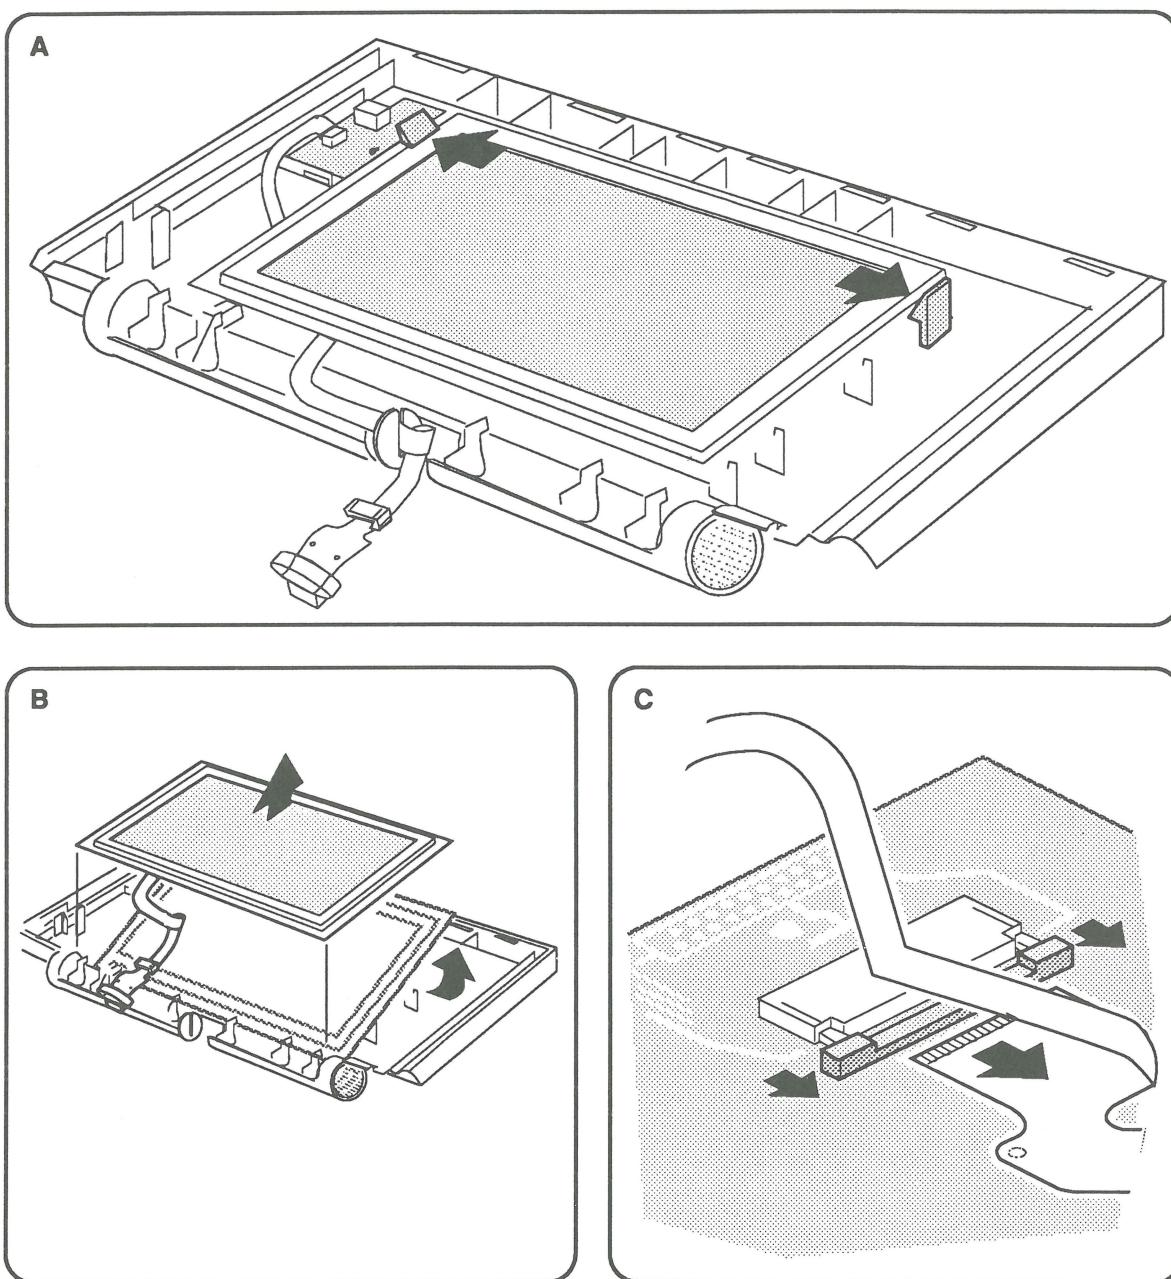

FIGURE 18
11. **Figure 18-A.** Simultaneously pull the two plastic clips at the upper-left and upper-right sides of the display away from the display with your thumbs. Lift the display with your index fingers.
12. **Figure 18-B.** Slide the display up and out of the housing.
13. **Figure 18-C.** Disconnect the display cable by sliding the latch of the connector away from the connector and then sliding the cable from the connector.